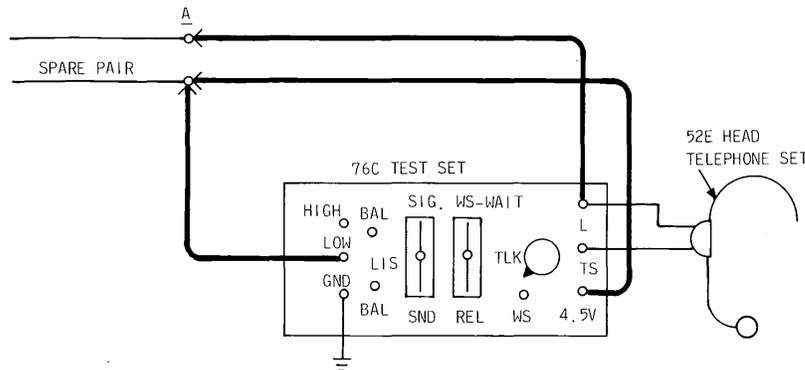

Fig. 19—Testing for Spare Pair
- Test the spare pair for defects by means of the battery and receiver tests. Set up the talk circuit at the sending end as shown in Fig. 19 and send tone on the talk pair with the keys in the SND and WS-WAIT positions.